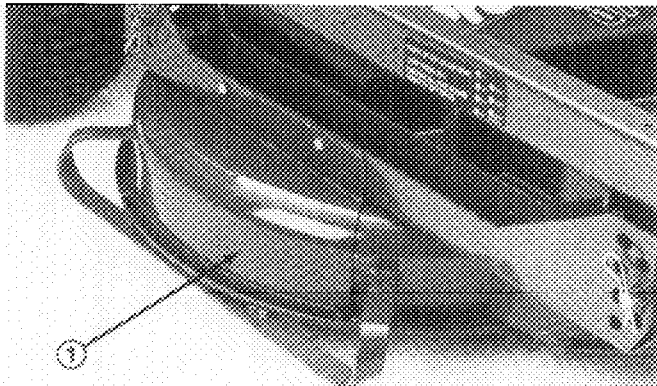

Figure 7
1. Remove (2) capscrews, lockwashers and wing nuts securing discharge cover to deck channel. Remove cover (Fig. 7).